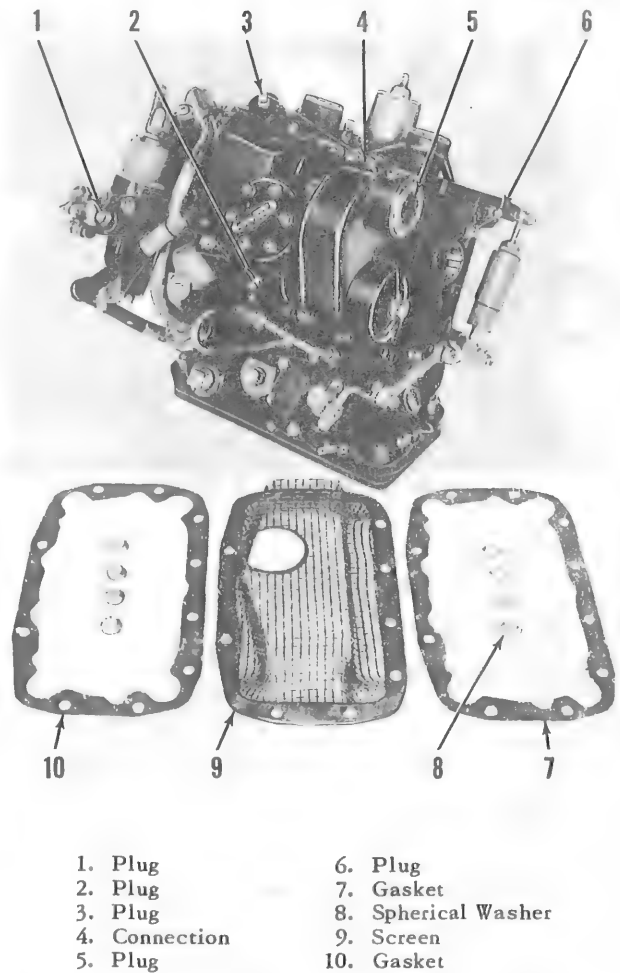

Figure 3-40. Carburetor
3-131. BUILDUP. (See figure 3-40.) The buildup of carburetor consists of installation of fittings for fuel line from fuel pump, fuel pressure line, fuel vapor return line, and altitude compensator line.
a. Remove large plug (5, figure 3-40) from fuel inlet connection of carburetor.
c. Remove lock wire and plug (2, figure 3-40) from fuel pressure connection in pressure regulator pad below primer pump.
a. Remove lock wire and plug from vapor vent connection (4, figure 3-40) in top of float vent seat.
b. Install elbow (6, figure 3-41) in vapor vent connection (4, figure 3-40) with open end of elbow pointing to rear.
d. Remove plug (3, figure 3-40) from vapor vent connection in circular boss at top rear of carburetor, just to right of upper end of large stainless steel tube and approximately 7 inches directly above electrical receptacle on primer valve.
a. Remove lock wire and plug (6, figure 3-40) from manometer connection in right edge of upper deck of carburetor.
c. Remove lock wire and plug (1, figure 3-40) from altitude compensator vent connection in circular boss on rear surface of fuel control unit housing.
e. Tilt carburetor toward rear and install a spherical washer (8, figure 3-40) and nut on stud